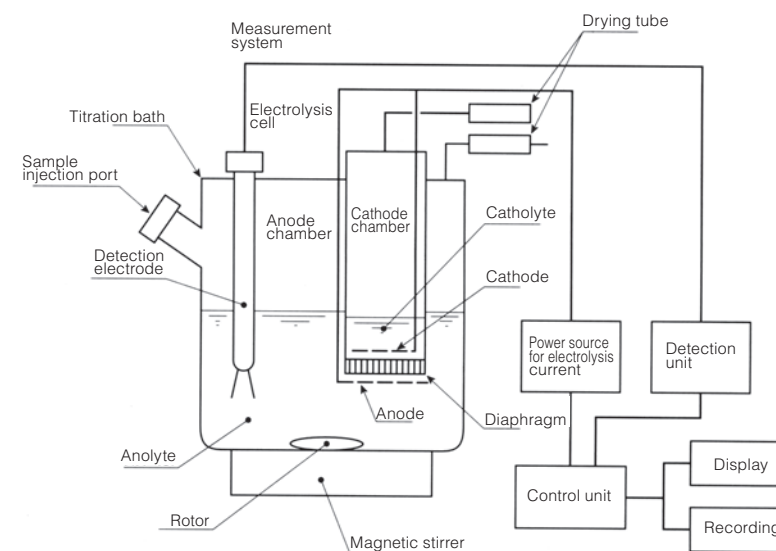
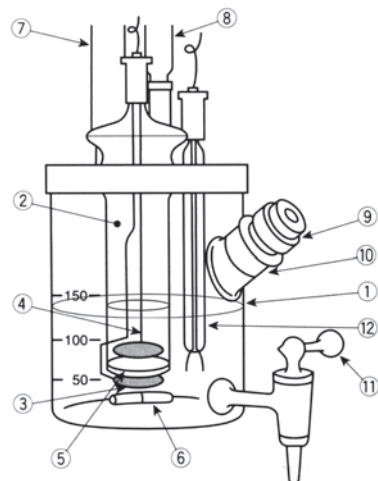

Figure 2: Automatic Coulometric Moisture Meter
Figure 3: Electrolysis Cell
- a) Electrolyte solutions (Aquamicon AX and CXU) are introduced into the anode and cathode chambers of an electrolysis cell (Figure 3) attached to an automatic coulometric moisture meter (Figure 2).